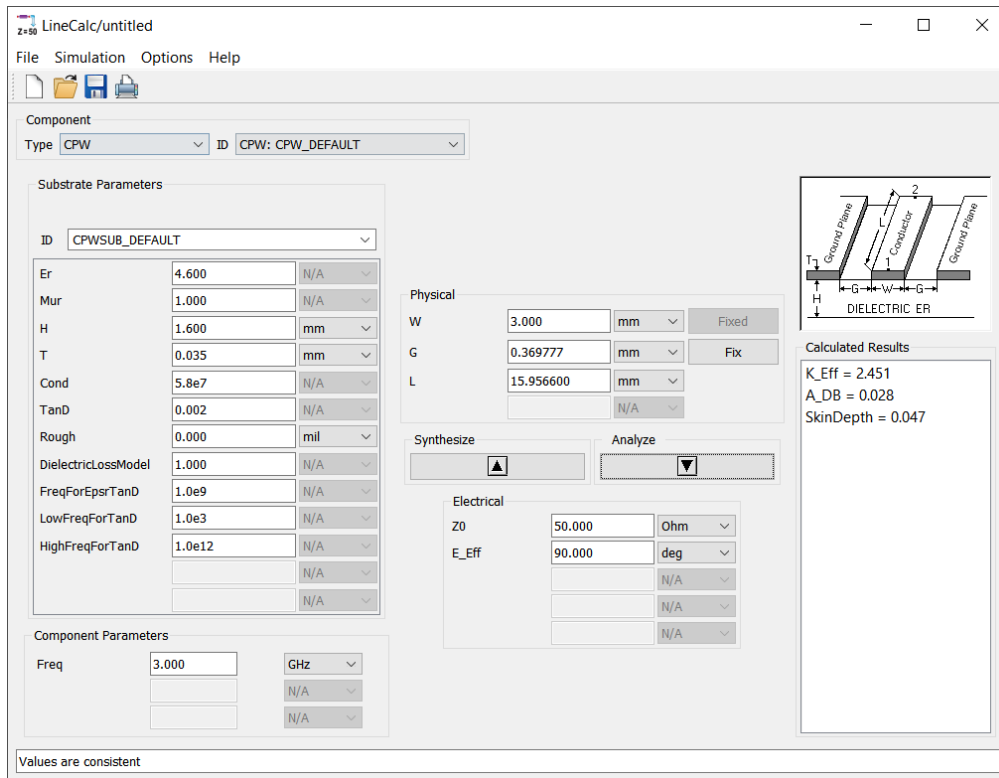

Figure 24. LineCalc for 50 Ω line
1. Calculate the physical parameters of the CPW T-junction power divider using the parameters from the earlier section. Use LineCalc to synthesis the length, width, and gap of the 50Ω (Z_0) and 70.7Ω ($\sqrt{2} Z_0$) lines. The LineCalc windows are shown in Figures 24 and 25. The physical parameters for the lines are as follows: